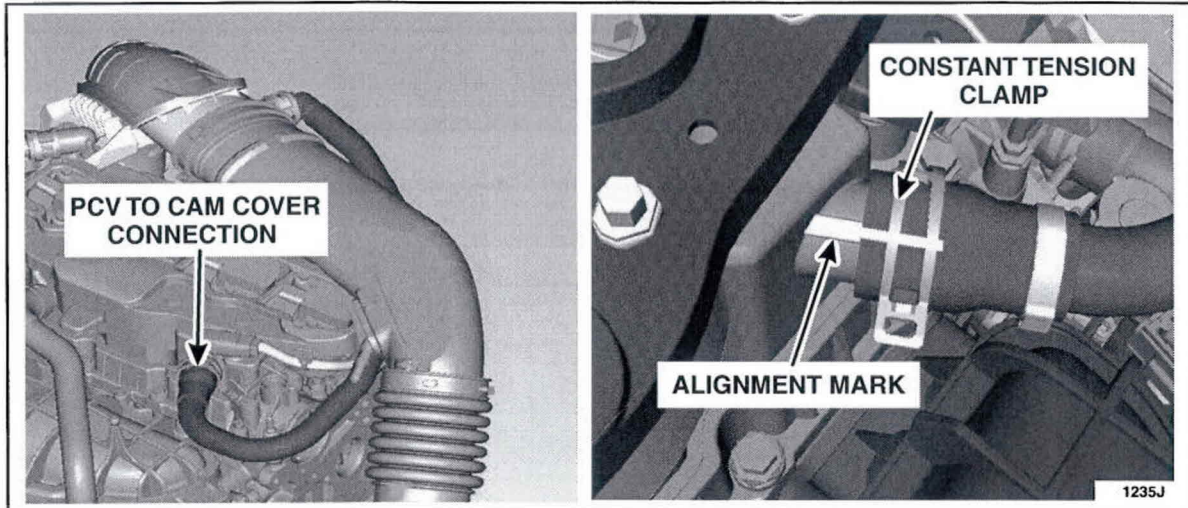

FIGURE 7
3. Check the constant tension clamp on the PCV hose to cam cover connection and ensure that it is properly installed. Verify the PCV hose is fully seated and aligned with the mark on the cam cover. See Figure 7.